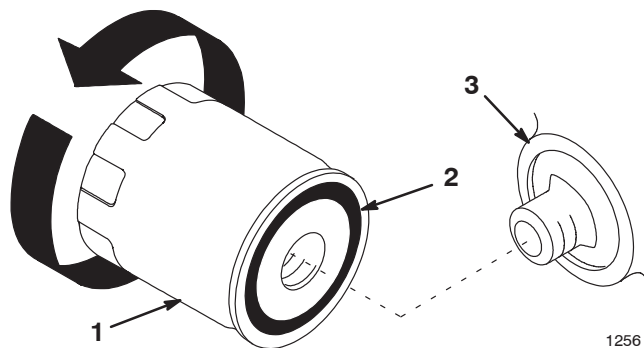

Figure 20
2. Remove the old oil filter and wipe off the adapter gasket surface (Fig. 20).
3. Apply a thin coat of new oil to the rubber gasket on the new oil filter (Fig. 20).
5. Tighten the oil filter an additional 1/2 to 3/4 turn (Fig. 20).